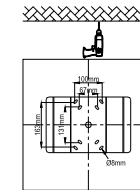

Figure 8
1. Drill the alignment holes on the top ceiling, make them match to the holes on mounting bracket. (Figure 8)